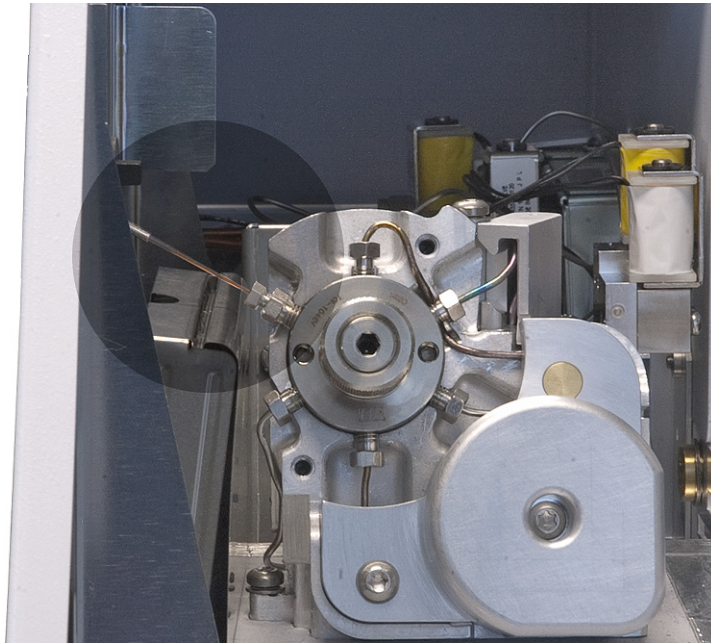

Figure 14 Transfer line installed into 6 port valve
- 15 Gently slide the tubing into the internal reducer until it bottoms. Tighten the 3/16-inch nut finger tight, then an additional 1/4-turn. Test the connection by gently pulling on the transfer line. The transfer line should not slide out of the newly-made fittings. See Figure 14.